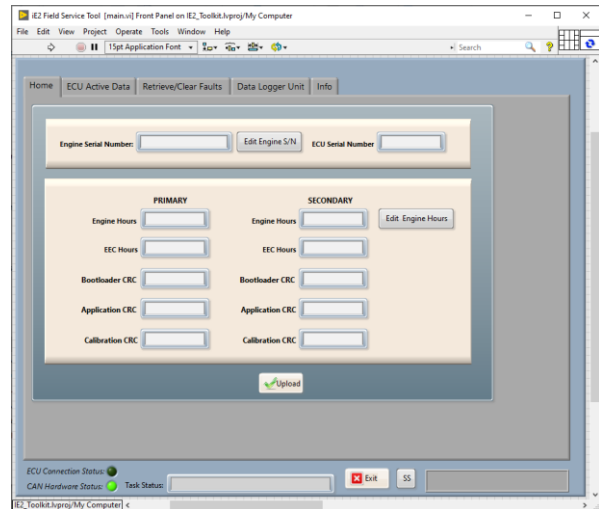

Figure 3
3. If the Connection Status indicator in the lower left corner of the screen indicates there is no ECU Connection even though the CAN Hardware is connected (Figure 3):